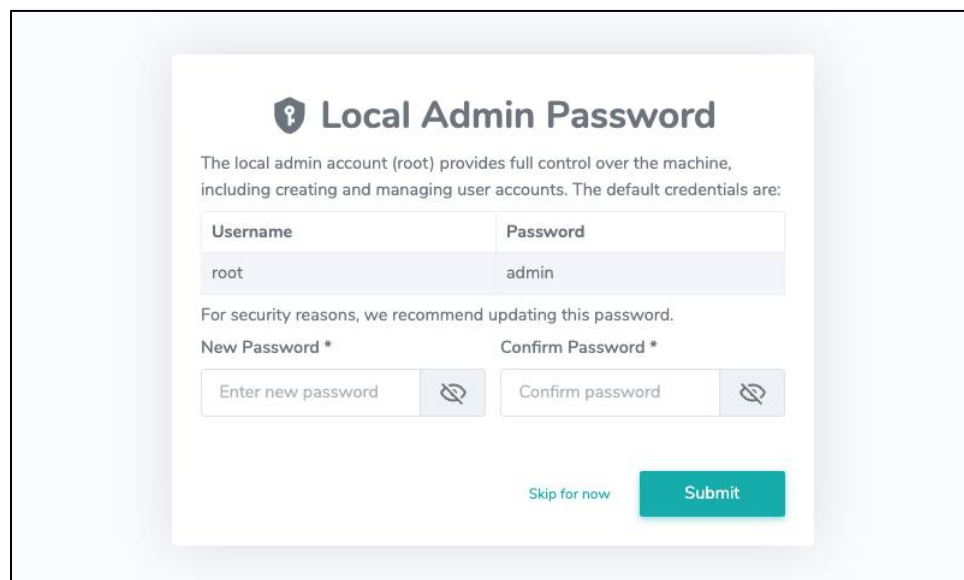

Figure 12
8. Fill out the password form to set a new Local Admin Password (Figure 12). Alternatively, tap 'Skip for now' to change it later (Refer to section “**10.11.4 Change Password**” for changing the password later).